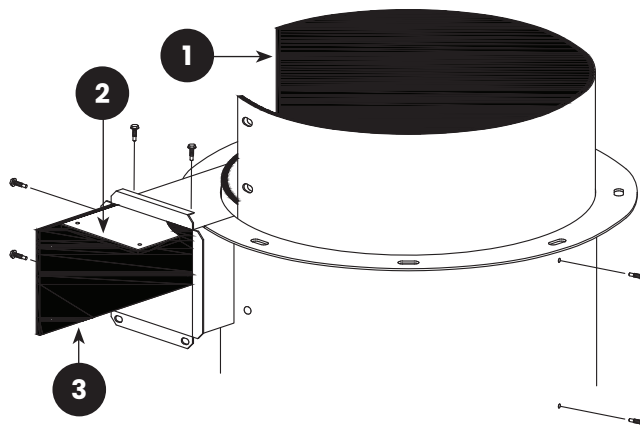

FIGURE 10: (1) Wall Liner; (2) Inlet-Top Liner; (3) Inlet-Side Liner
7.3.11 | Remove the screws holding the inlet-side liner and inlet-top liner and remove both liners from the reclaimer inlet, as shown in **Figure 10**.